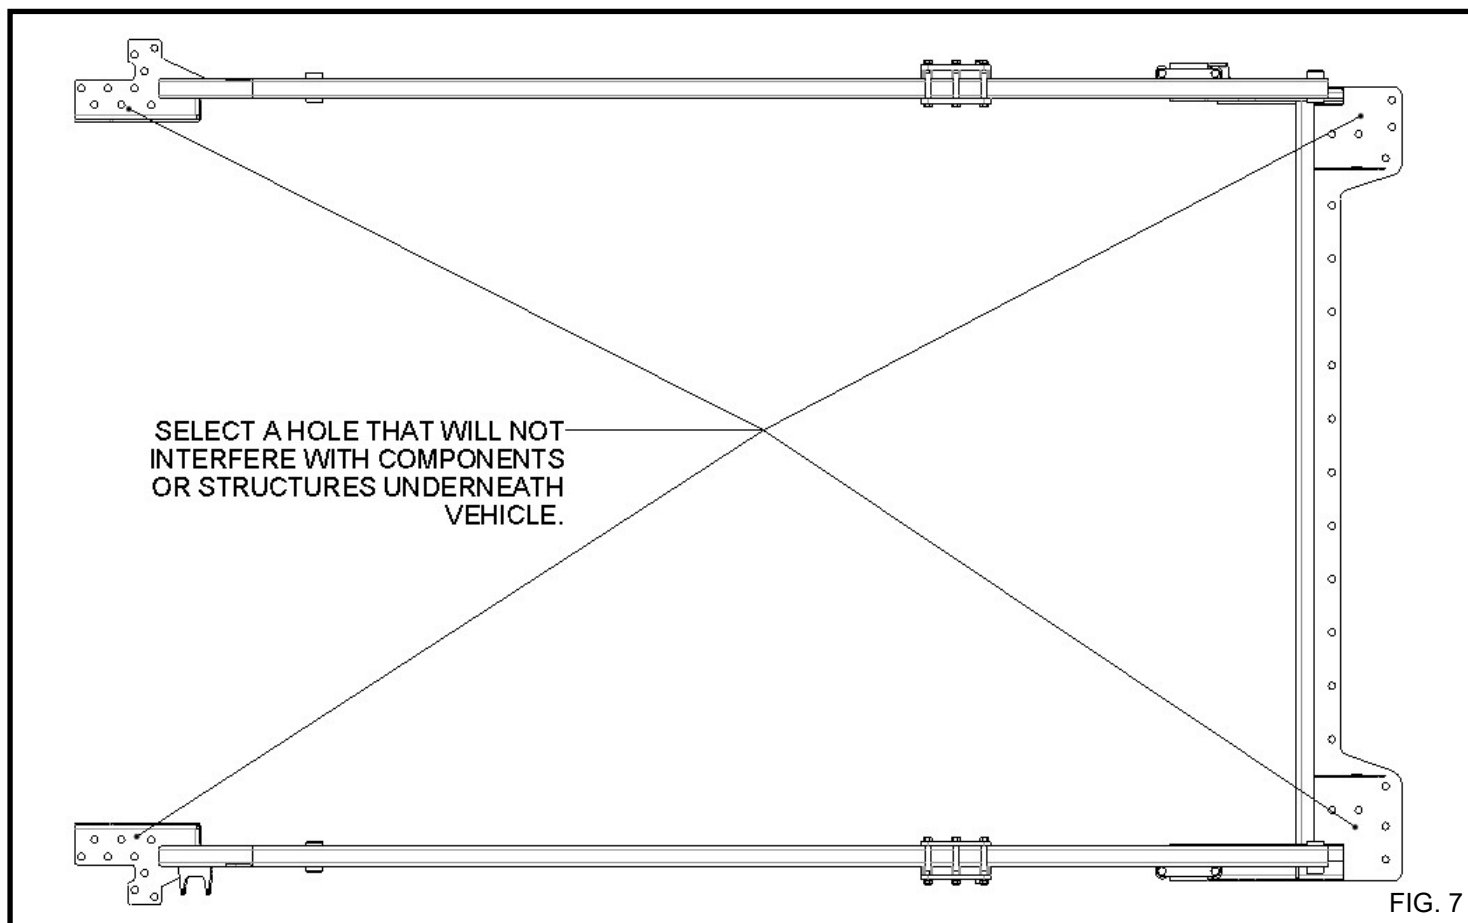

FIG. 7
a. The rear mounts offer multiple holes for the bolt to pass through. Select one location per side that will not interfere with components or structures underneath. (**FIG.7**)